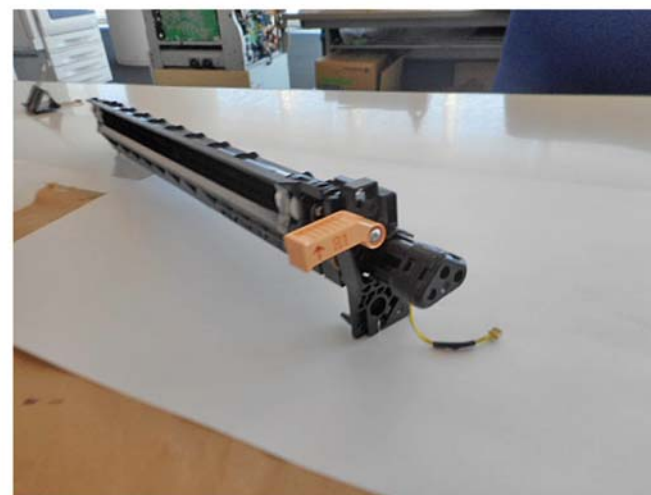

Figure 11 Developer front cover
1. Install the developer front cover, Figure 11.